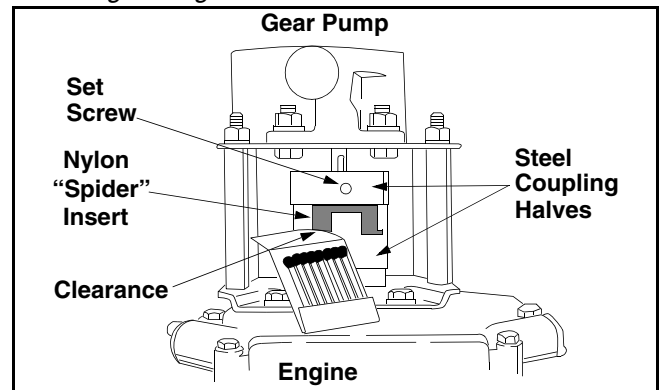

Figure 11
- Set .010” to .060” clearance between the nylon “spider” and the engine coupling half by sliding a matchbook cover between the nylon “spider” and the engine coupling half and moving pump coupling half as needed. Secure pump coupling half with set screw. See Figure 11.